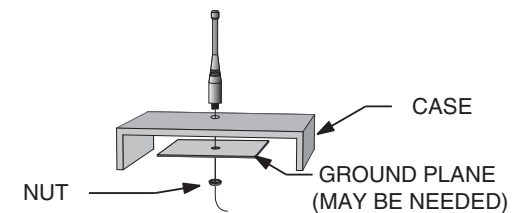

Figure 34: Remote Ground Plane
6. In some applications, it is advantageous to place the module and antenna away from the main equipment (Figure 34). This can avoid interference problems and allows the antenna to be oriented for optimum performance. Always use 50 Ω coax, like RG-174, for the remote feed.